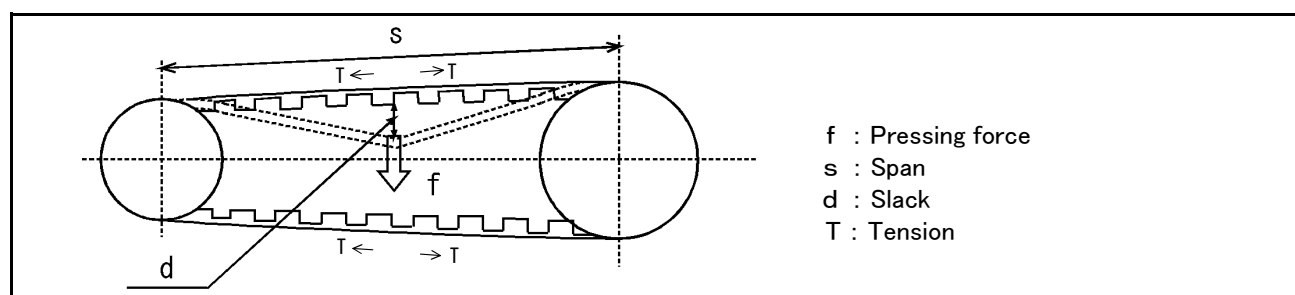

Fig.5-14 : Belt tension
- 4) Lightly press the center of the belt, and confirm that the value of belt slack is in following. The tension of the belt is shown also in Page 85 "Fig. 5-14: Belt tension".
The timing belt can satisfactorily convey the drive and keep a durable force only when it has an adequate tension. The belt tension should not be too tight or too loose. Instead, it should be adjusted to a degree that elasticity is felt when the belt is pressed with the thumb. If the belt tension is too weak, the belt loosening side will vibrate. On the other hand, if the belt tension is too strong, a sharp sound will be heard and the belt tension side will vibrate. The detailed adjustment (tension) is shown in Fig. 5-14.